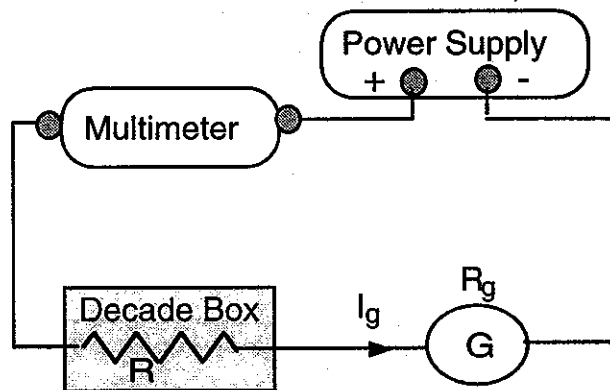

Fig. 4.3
- (c) Make the circuit as shown in Fig. 4.3. Adjust the current limit to maximum and the voltage of the power supply to zero. Adjust the resistance (R) of the decade box to about $10,000 \Omega$.